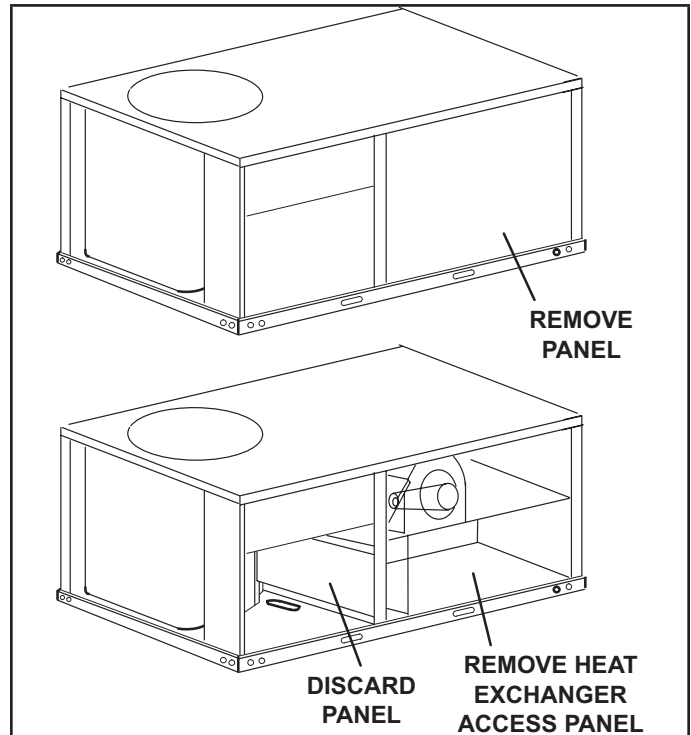

FIGURE 1
- 2 - Remove panels as shown in FIGURE 1.